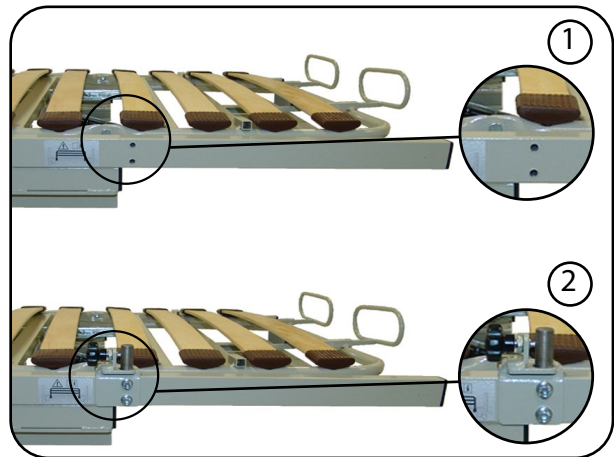

Fig. 6.5.02 - Assembling the side bar holder
2. Remove the plugs from the threaded holes of the longitudinal tube (or from the assembled connecting tube of the bed surface widening set) (Fig. 6.5.02 1)).
3. Attach the side bar holder in the threaded holes on the bed surface frame using the M8 x 16 Allen bolts with washers (or M8 x 70 with washers if bed surface widening set is installed) (Fig. 6.5.02 (2)).